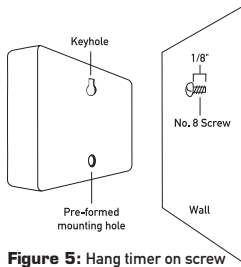

Figure 5: Hang timer on screw using keyhole
- Slip the HRC 390 over protruding screw (using keyhole slot in back). See **Figure 5**
- Drive a No. 8 screw through one of the two pre-formed holes located in lower back cabinet. See **Figure 5**